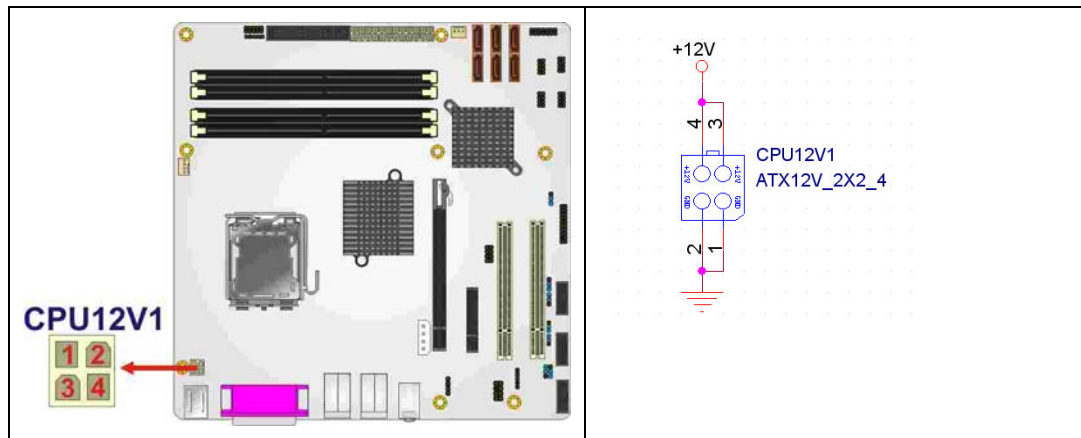

Figure 4-4: CPU Power Connector Location
- CN Location:** See **Figure 4-4**